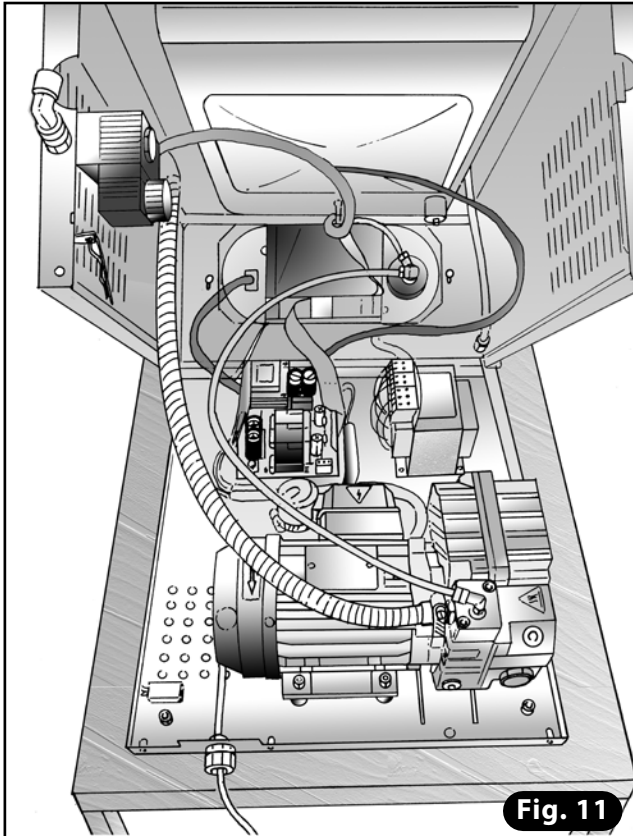

Fig. 11
- 11) Put the sealing bar back in the tank, making sure it engages correctly with the electrical contacts (**Fig. 11**).
- 17) Remove the rod from the guide and put it back in its place on the base (**Fig. 11**).